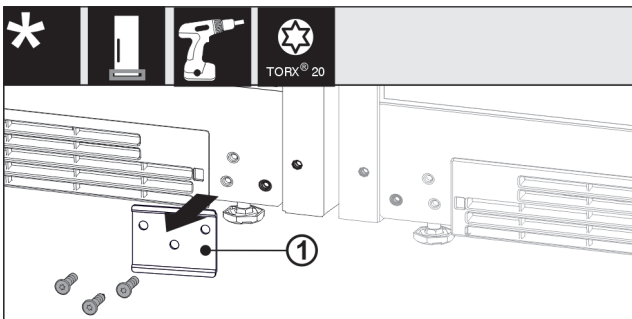

Fig. 14
- ▶ If installed, unscrew metal plate Fig. 14 (1).